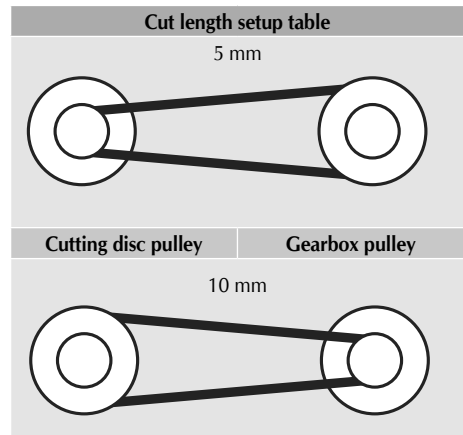

Figure 7
4. Check the desired size and position the belt (fig. 7).